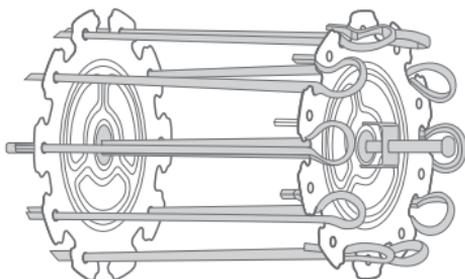

Figure 6: Assembled Rotisserie (4)
- The rotisserie is now ready for use – see figure 6.